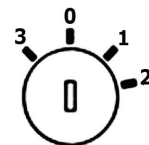

Fig. 83A
4. Cab heater toggle switch; 5. Not assigned; 6. Ground toggle switch; 7. Key Switch - Fig. 83A.
- turn the key clockwise to position 2 - Fig 83A, page 107